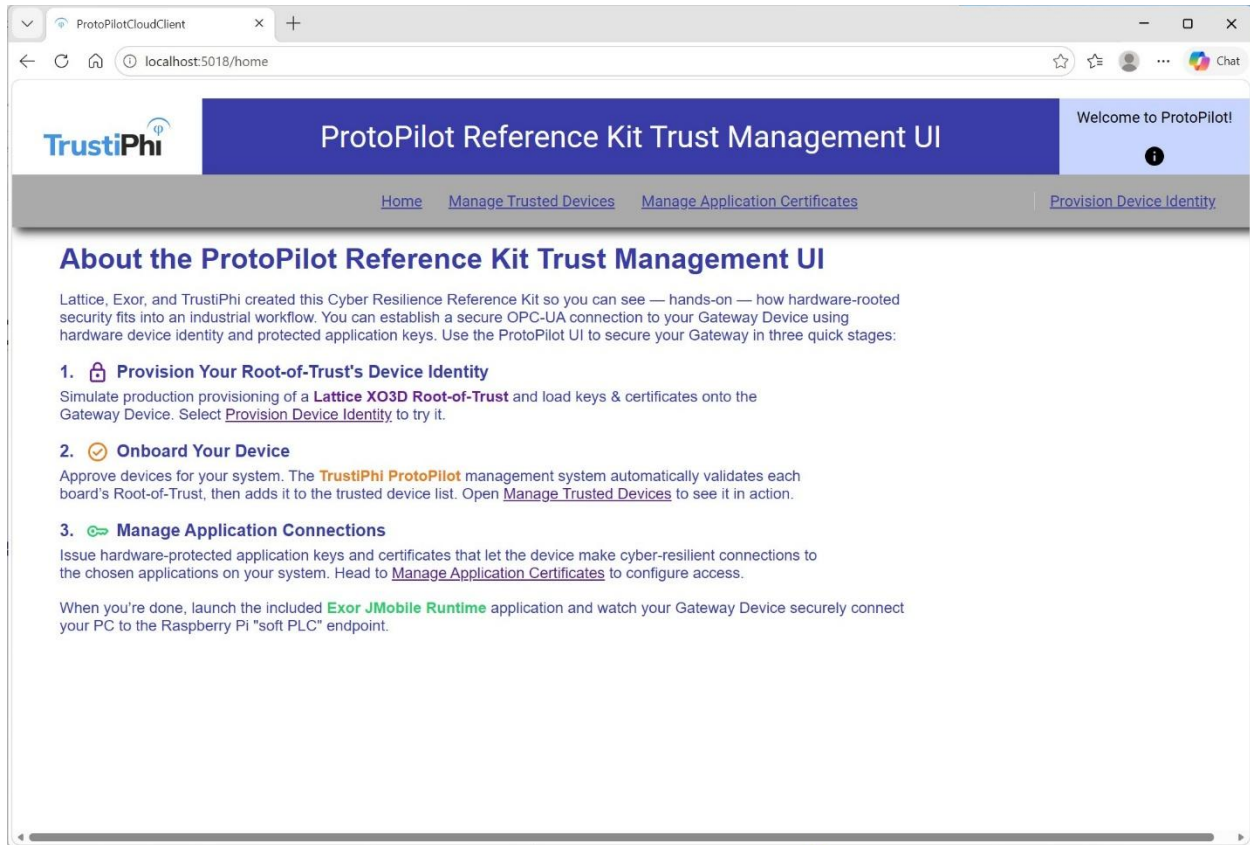

Figure 14 - TrustiPhi ProtoPilot Reference Kit UI Home Screen
To access the ProtoPilot user interface (UI), make sure the ProtoPilot Server is started as described in Section 2.2.1. Then open the ProtoPilot Reference Kit administrative UI in a browser using Google Chrome or Microsoft Edge (or equivalent) at <http://localhost:5018>. You should see the landing page as shown in Figure 14. Note that in a production system, ProtoPilot will require user authentication and be protected via TLS.